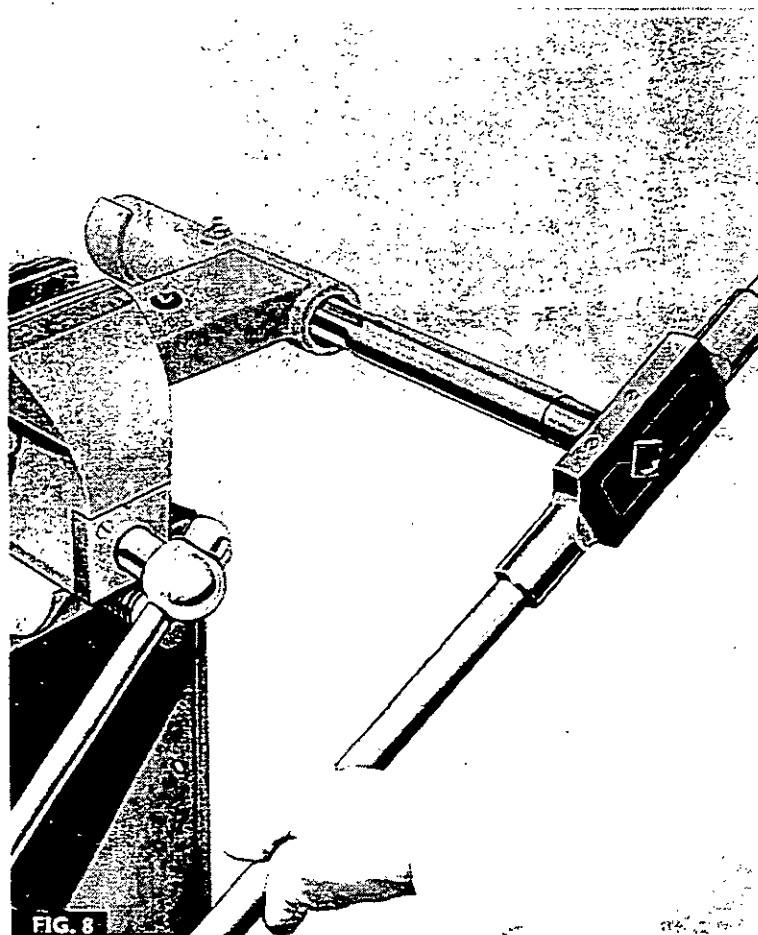

FIG. 8
7. Fig. 8. Using the tool MF 19A, as shown, ream the two bushes.